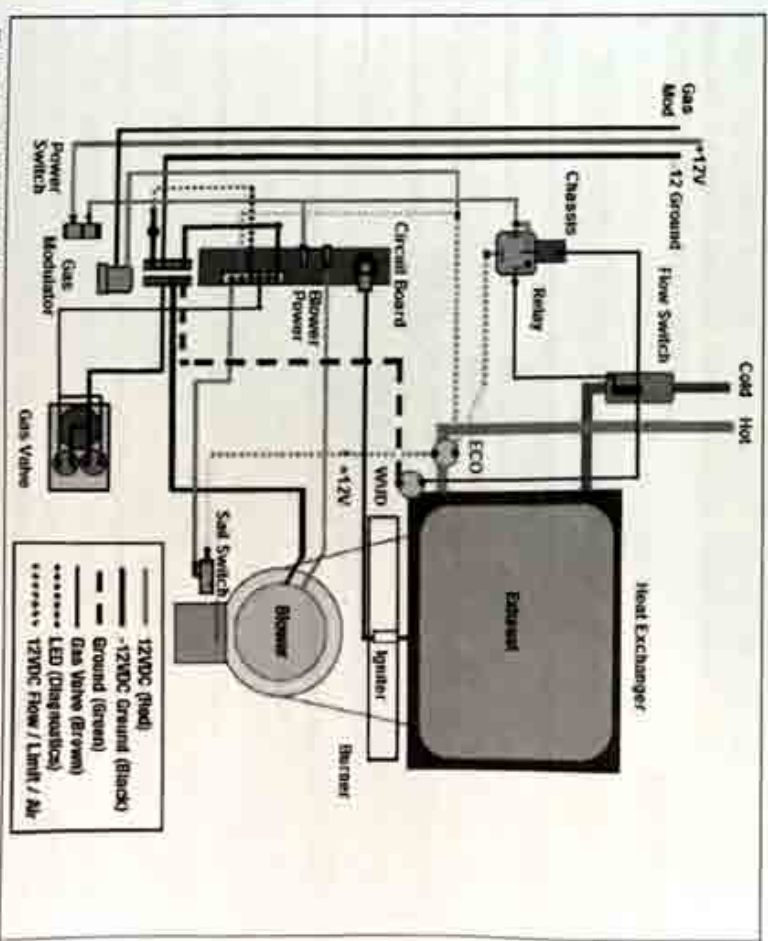

Figure 10 - WIRING DIAGRAM
2. **Figure 10:** A wiring diagram with all electrical components showing all interconnections and the wire colors adopted.